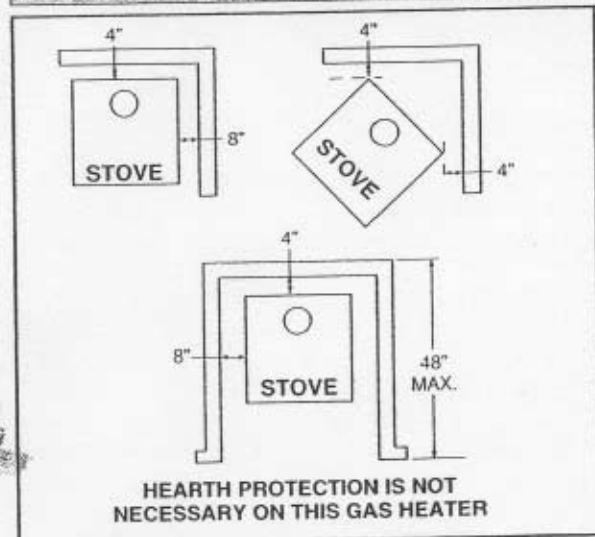

Figure 1
1. Positioning the appliance. Position the appliance in its desired location. Maintain all clearances found in Figure 1 on page 8.